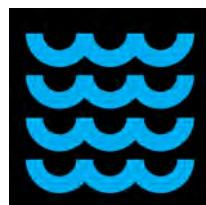

Figure 11.1.1: Bluelake software icon.
4. Locate the **Bluelake** Figure 11.1.1 on the desktop and double-click to launch the software.